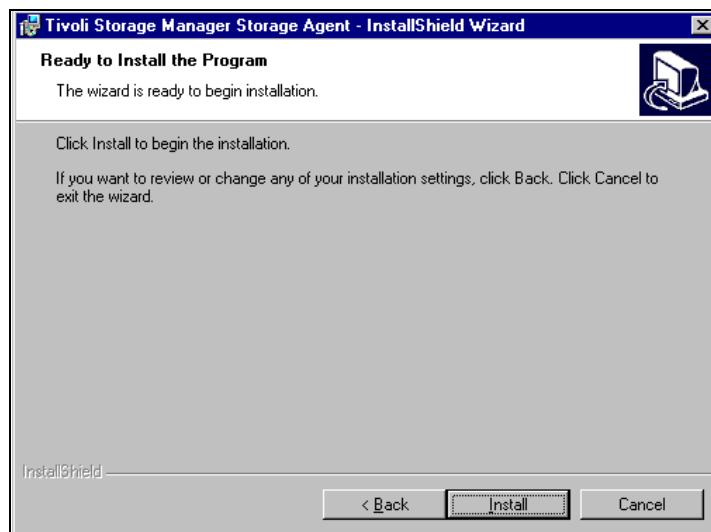

Figure 52. Installing the Storage Agent, copying files
4. Click the **Install** button to begin installation (Figure 52).